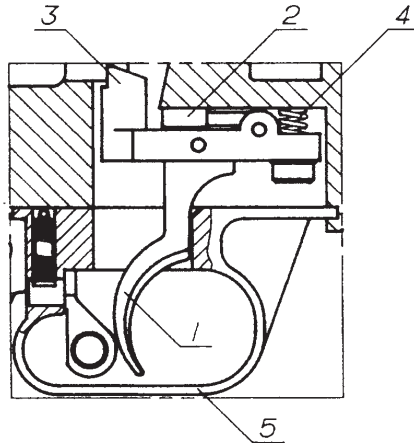

Fig. 3 – Triggering mechanism
6. Function of the triggering mechanism (Fig. 3) is to retain the striker in cocked position when the bolt is locked and to release it at pulling the trigger.
- 3) Fig 3: If your rifle was equipped with optional scope mount, install mounts.